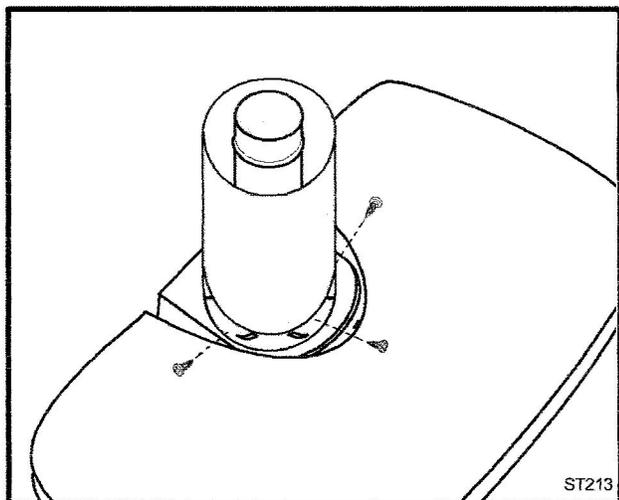

Fig. 26 Fasten outer pipe with #12 x 1/2" sheet metal screw.
- 5. Install the Outer Adapter Pipe.** Apply a 1/4" bead of cement around the inside wall of the pipe, about 1" from the end. Insert the pipe over the stove flue collar, keeping the vertical seam oriented to the back of the stove. Also, be sure to align holes on the pipe with the holes on the flue collar of the firebox. Fasten the pipe to the holes in the flue collar with the #12 x 1/2" sheet metal screws provided. (Fig. 26)